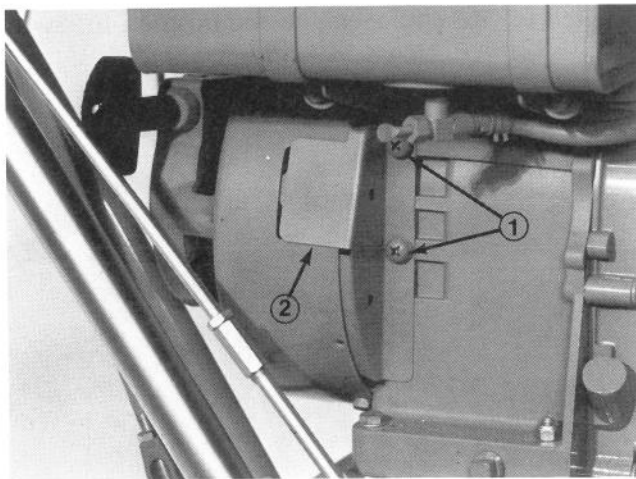

Figure 1
1. Remove two mounting screws and remove cover over flywheel (Fig. 1).